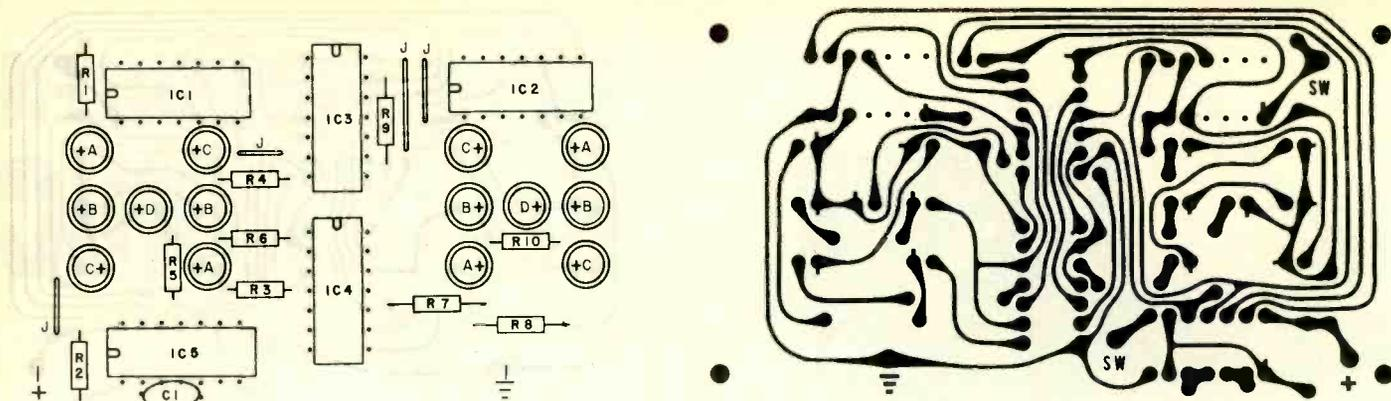

Fig. 2. Actual-size foil pattern is shown at right. Component installation at left.
**Construction.** Neither the circuit layout nor lead dress is particularly critical, but an effort should be made to minimize the length of the lead between the 1-MHz oscillator and the first counter (*IC1*). If desired, a pc board can be made, using the etching and drilling guide shown in Fig. 2.